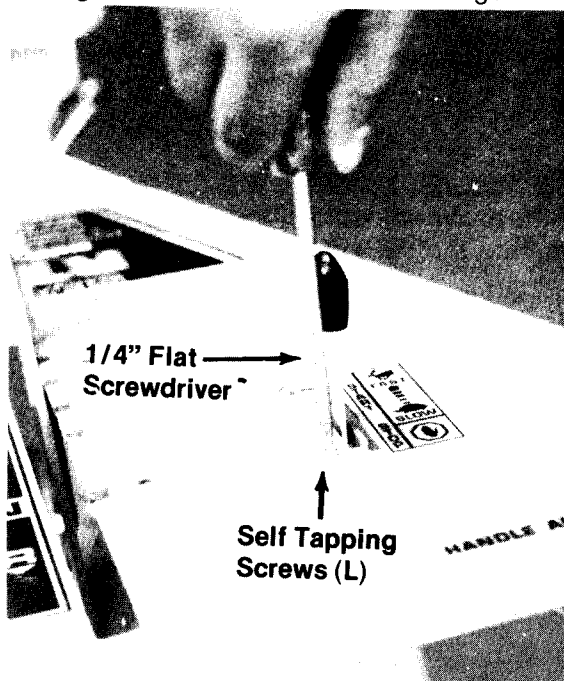

FIGURE 14.
Place throttle control lever up through the handle panel and secure with two self tapping screws (L), using a 1/4" flat screwdriver. See figure 14.